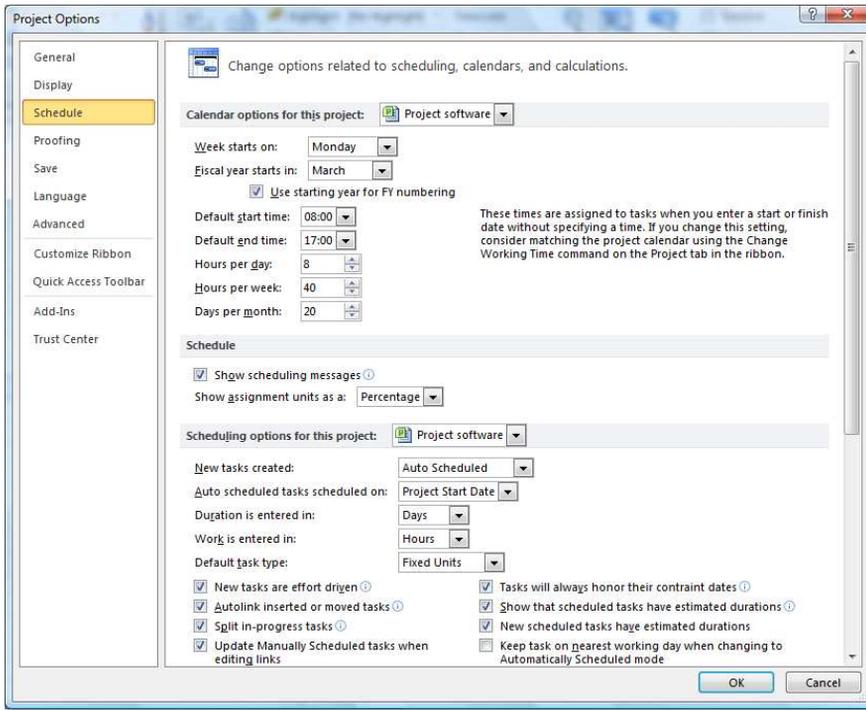

Fig. 4. Options for fiscal year
- If your fiscal year is named by the calendar year in which the fiscal year begins, turn on the Use starting year for FY numbering checkbox (see Fig. 4).